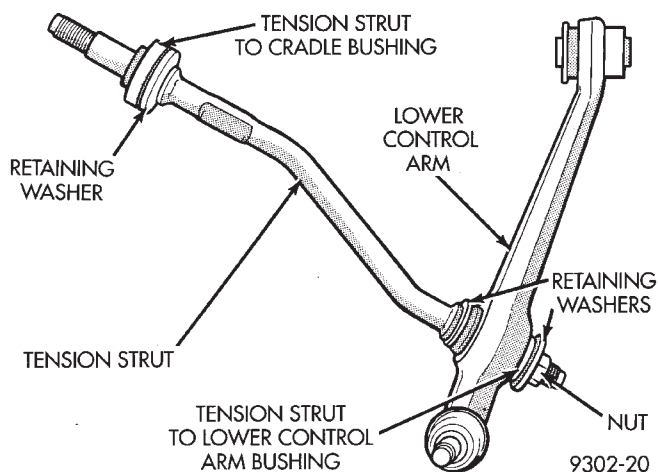

Fig. 14 Tension Strut Bushing Installed On Tension Strut
(1) Remove lower control arm and tension strut as an assembly from the vehicle. See Lower Control Arm Removal in this section of the service manual for the required removal procedure.
(2) Remove failed tension strut to cradle, isolator bushing from tension strut. Install replacement isolator bushing on tension strut until it is seated against retaining washer (Fig. 14).